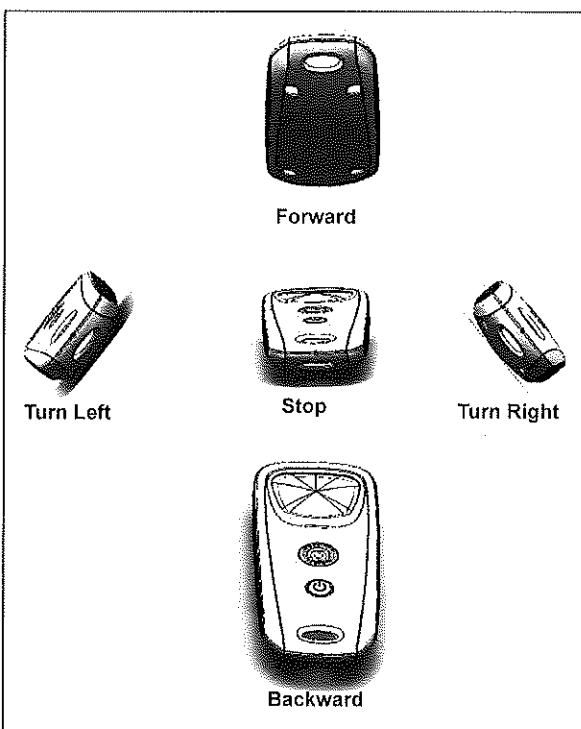

Figure 21. Remote Control Directional Commands
- To pilot the cleaner, point the device toward the cleaner in the water and move directionally as shown in Figure 21.